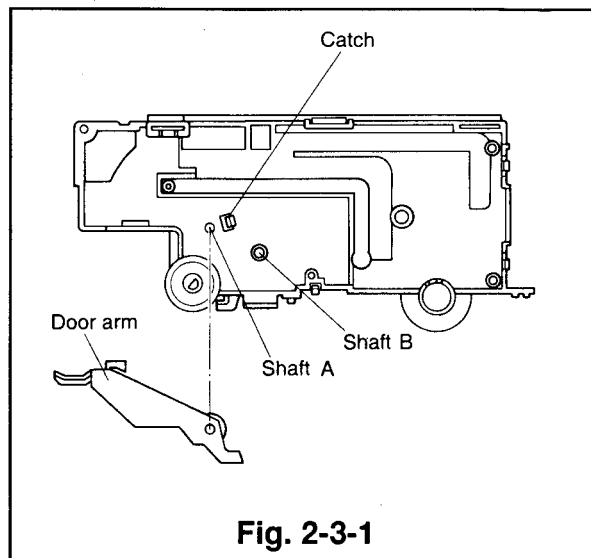
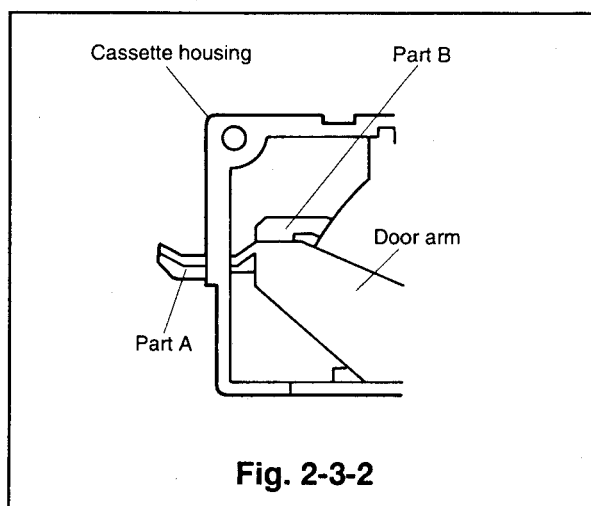

Fig. 2-3-1
Fig. 2-3-2
- ① Remove the cassette housing. (Refer to Para. 2-1 for the removal method.)
- ② Remove the side plate, sense gear, and takeup arm. (Refer to Para. 2-2 for the removal method.)
- ③ Unfasten the catch shown in Fig. 2-3-1 to remove the door arm. (The simple way is to pull the door arm at the same time as unfastening the catch.)
- ① Fix the door arm to the shaft A shown in Fig. 2-3-1 and secure it with the catch so that the parts A and B are inside of the cassette housing as shown in Fig. 2-3-2.
- ② Install the takeup arm, the sense gear, and the side plate. (Refer to Para. 2-2 for the installation method.)
- ③ Install the cassette housing. (Refer to Para. 2-1 for the installation method.)